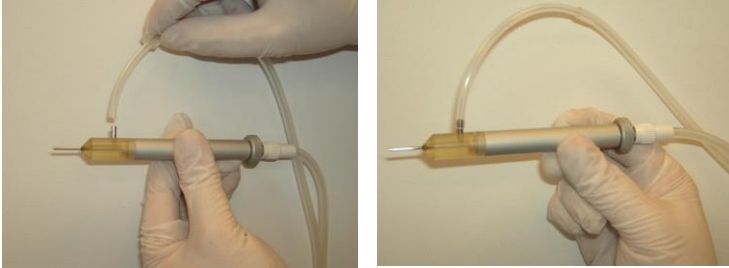

Figure 3-83. Connecting the Distal End of the Implantation Tubing to the Implanter Head
7. Connect the distal end of the implantation tube to the suction port of the implanter head, as shown in Figure 3-83.